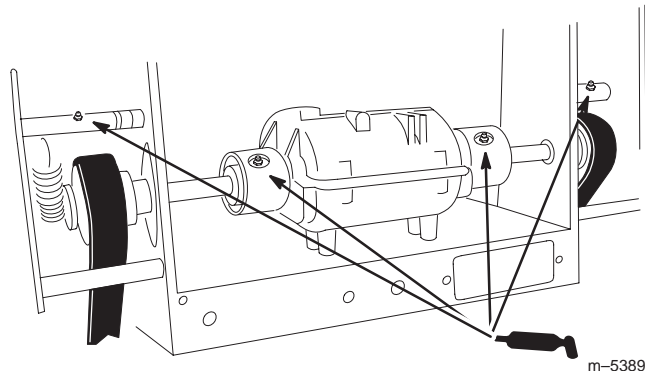

Figure 35
2. Lubricate the transmission couplers after every 100 operating hours and the idler bracket pivots after every 8 operating hours (Fig 35).